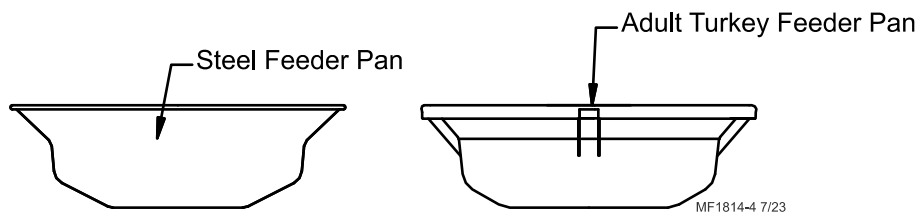

Figure 12. Feeder Pans
2. Determine which Feeder Pan (Adult Turkey or Steel) is to be installed, see figure 12.